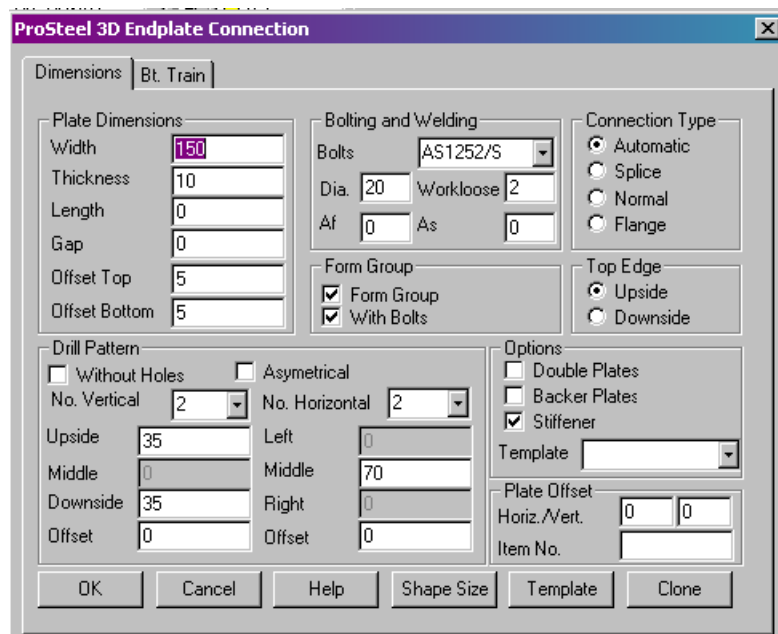

Fig 9
8. Fig 9 is an “*Endplate*” connection and again it is easier to alter settings and see how they behave on the screen. However I will mention some items on the above dialog box. Here the holes don’t dictate the plate size and you either have to enter a width and length or enter 0 in both or one and the member default size is used. The “*Offset top & bottom*” is a value that the plate is either shortened or lengthened by (-5 to lengthen). You can have numerous bolt configurations and you can offset the plates or holes, add backing plate’s, stiffeners or add a plate to the matching members flange if it is an adjacent connection “*Double Plates*”.